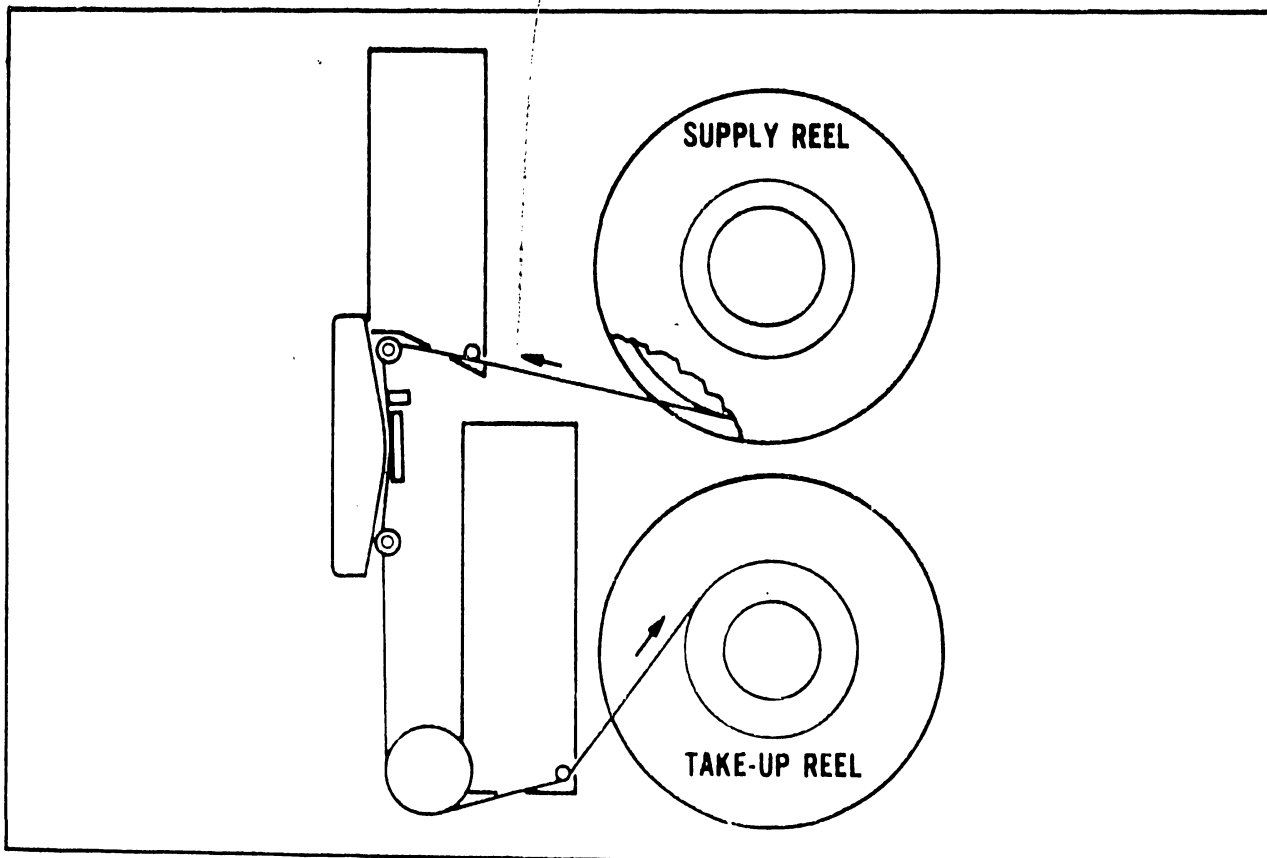

Figure 2-1. Tape Threading Diagram
- a. Raise the latch of the quick-release hub and place the tape file reel to be used on the supply hub (Figure 2-1) with the write enable ring side next to the transport deck.
- c. Thread the tape along the path as shown on the threading diagram (Figure 2-1).